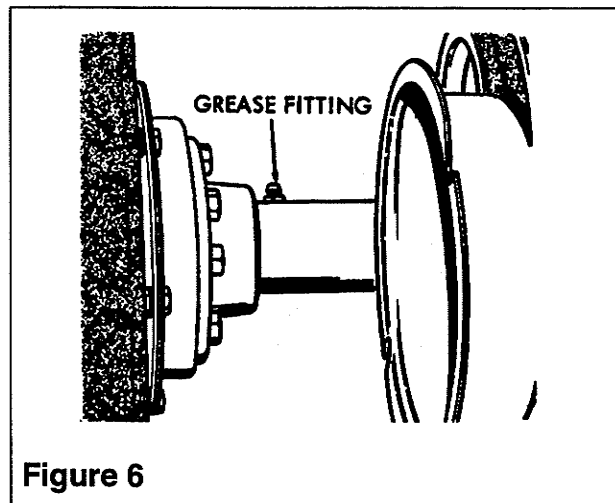

Figure 6
- (1) Rear Axle Tube - Figure 6.